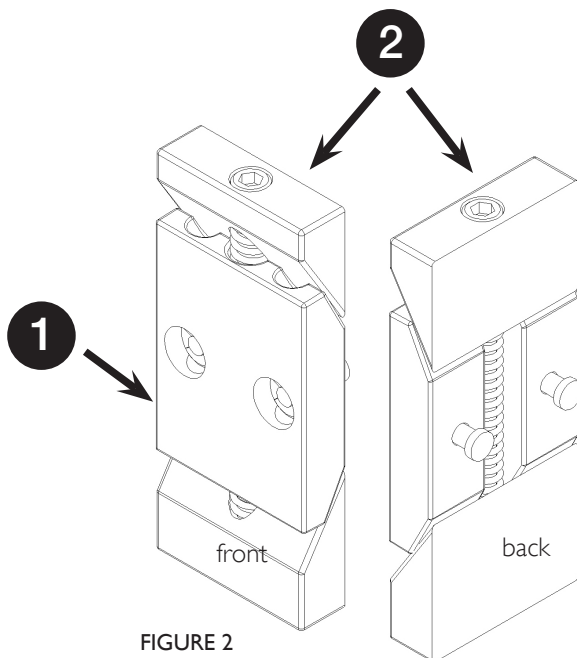
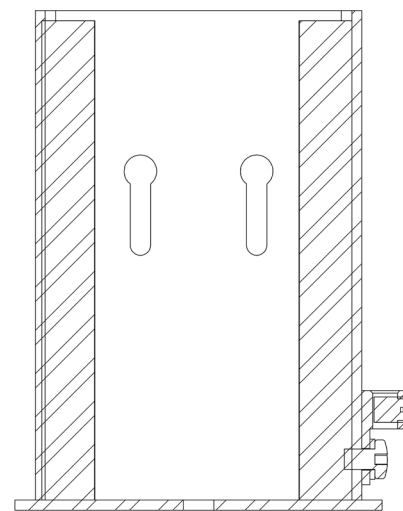

FIGURE 2
FIGURE 3
1. Remove the wedge components from the inside of the anchor. There are two complete pieces; **1** the middle wedge brass, and **2** the top/bottom single post brass. Place the middle wedge in-between the posts as shown in FIGURE 2.
2. Locate the two pins on the backside of the wedge. FIGURE 2. The pins align into the two slots on the back inside wall of the anchor. FIGURE 3